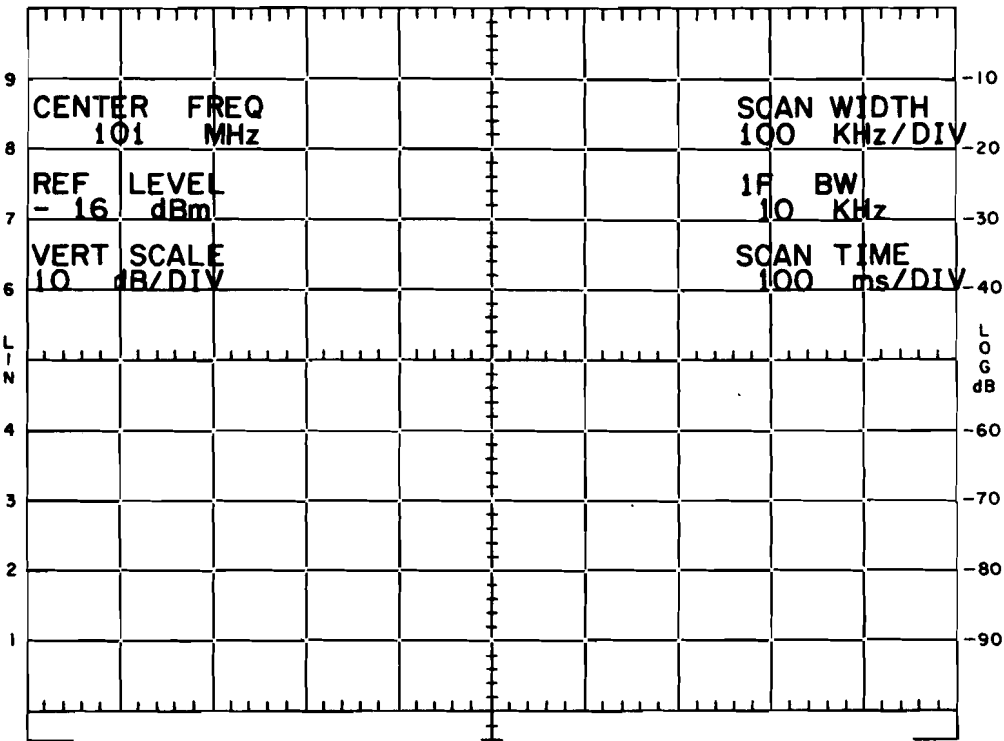

Figure 6-3. Test Waveform
**6-40. CRT CONTROLLER ALIGNMENT.** The following CRT controller alignment is to be performed when calibrating the 757 Spectrum Analyzer CRT Controller. Table 6-1 lists all the required adjustments along with their function and designation. Figure 6-3 is included to depict a properly calibrated CRT controller with WAVEFORM CAL SWITCH S1 on Pushbutton Interface/Line Generator Printed Circuit Board 1A20 in the ON position and with B VIEW A pushbutton depressed.
2. Depress the READOUT DISABLE pushbutton in order to extinguish the corresponding LED and light up the characters on the display as indicated in Figure 6-3.
1. Adjust X OFFSET R7 and X GAIN R6 potentiometers on Display Timing/Horizontal Output Printed Circuit Board 1A19 (Figure 6-1) so that the left edge of the character is just touching the left most vertical graticule line, and the last letter on the far right edge of the character is divided by the right most graticule line. See Figure 6-3.